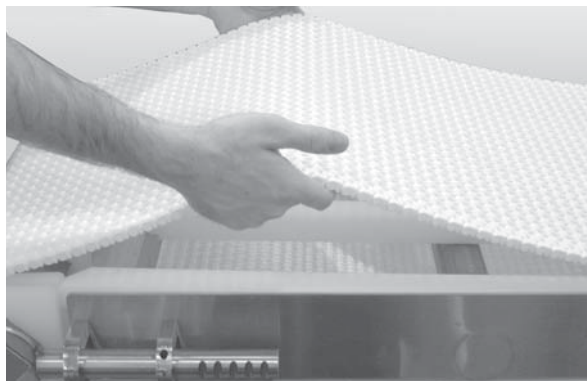

Figure 40
3. If conveyor does not have belt lifters, lift up on belt manually (**Figure 40**).